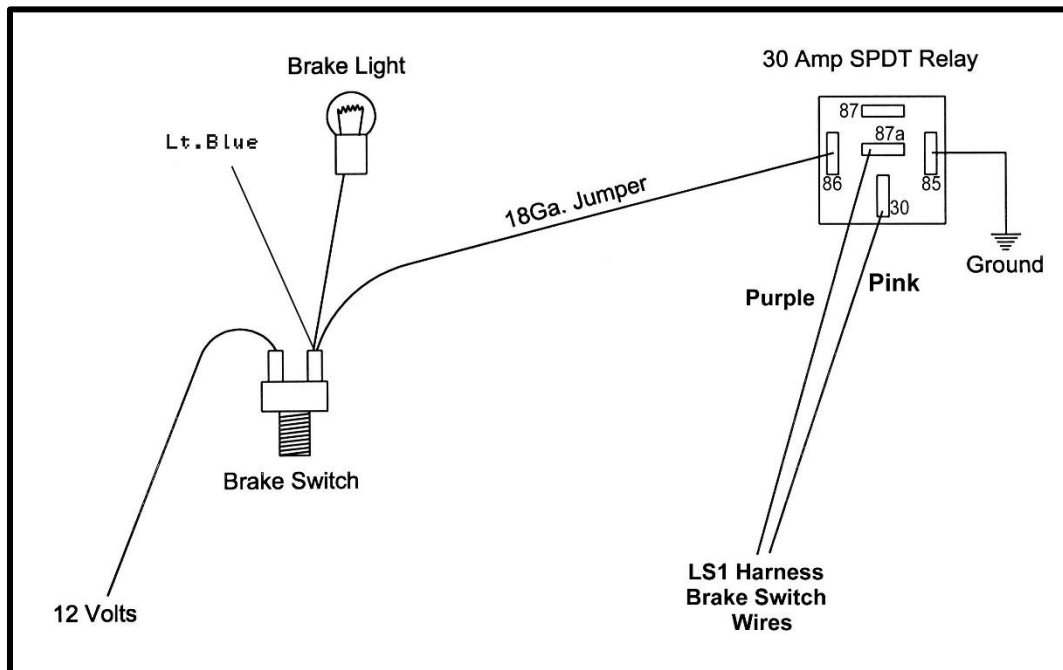

FIGURE 6.4 Brake Switch Relay
- D.1. The recommended switch is a combination reverse light, gear indicator **AND** neutral safety switch. You may use it for all these purposes if you wire it **EXACTLY** as shown in **Figure 6.4 Illustration B**
- D.2. If you are going to use the recommended switch as a gear indicator for the computers benefit **ONLY**, then you will wire it as shown in **Figure 6.4 Illustration A**.